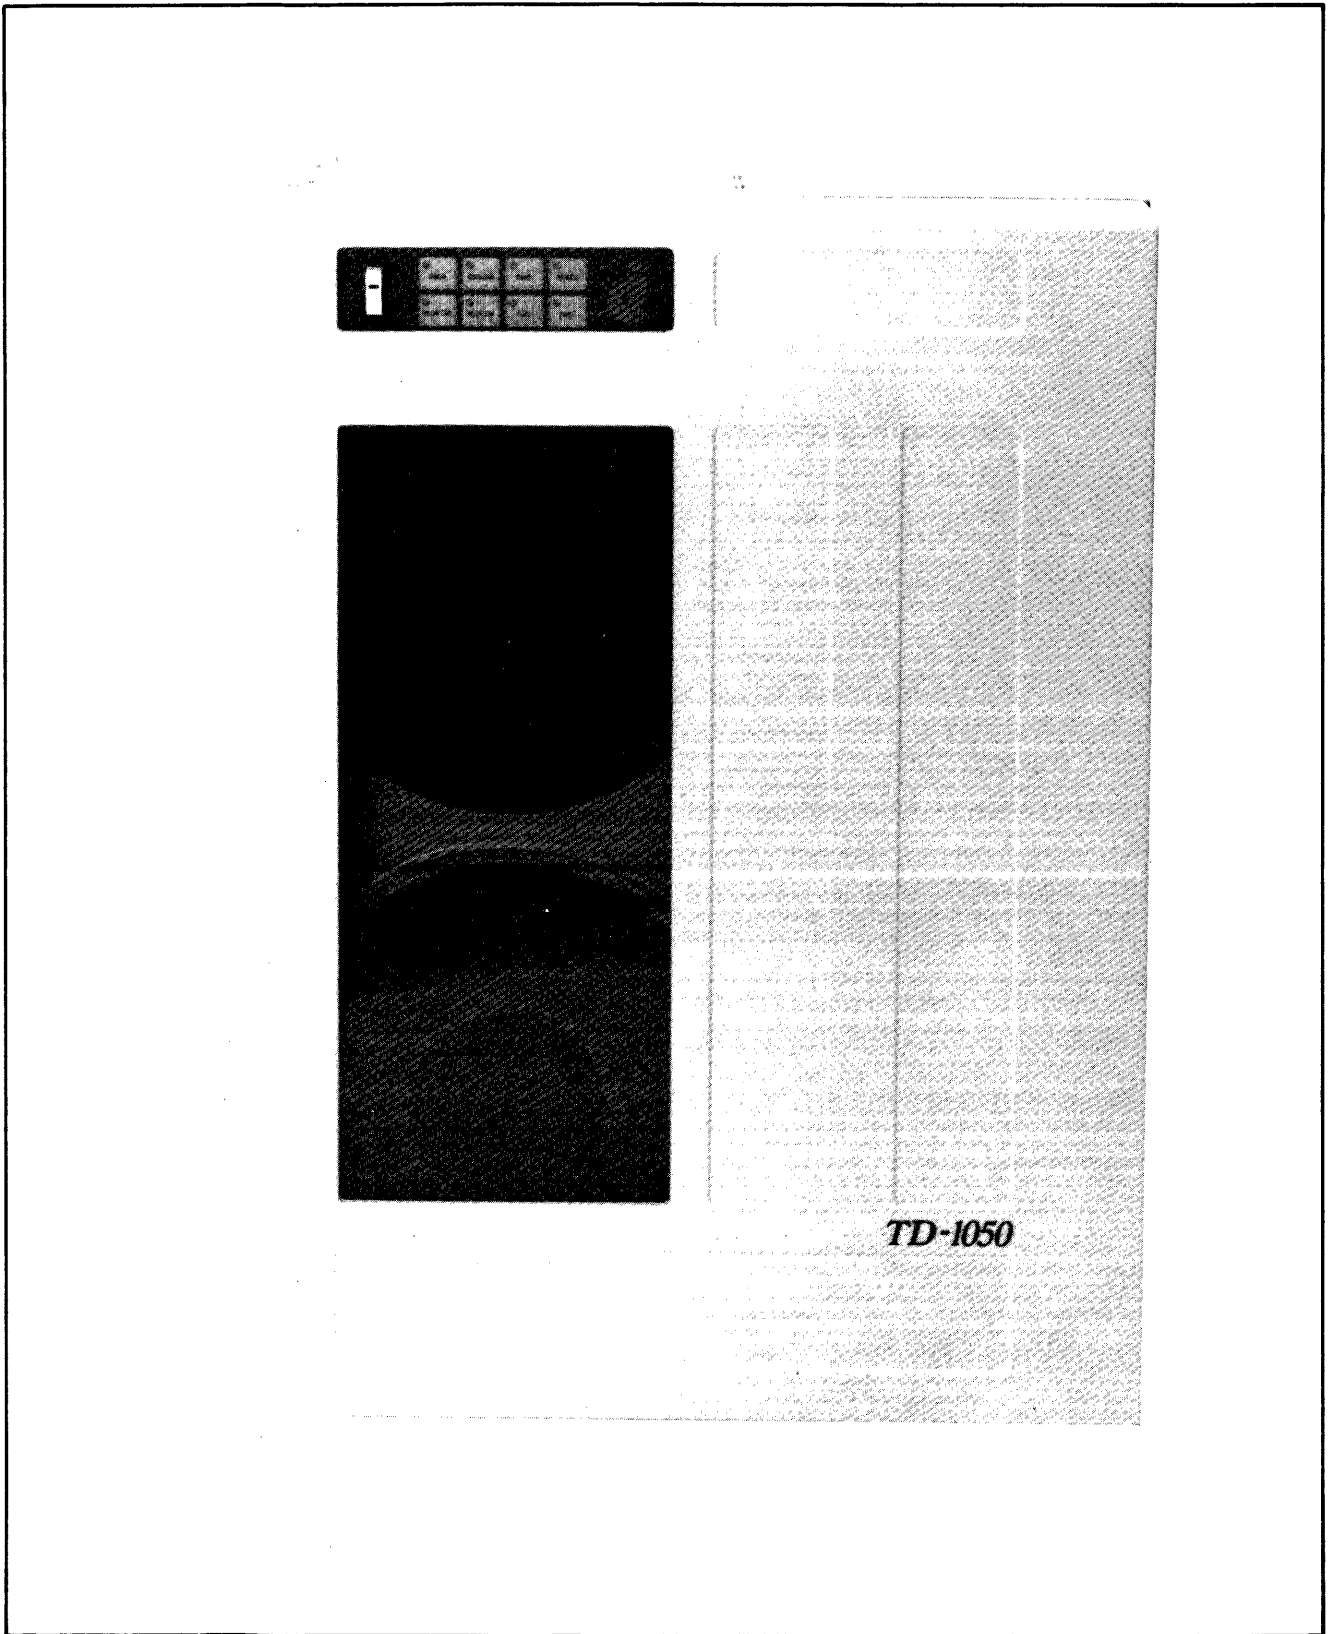

FIGURE 1-1. DIGITAL MAGNETIC TAPE TRANSPORT SERIES 1050
1.2 PHYSICAL DESCRIPTION (See Figure 1.1)
The Series 1050 Tape Transports are self-contained units designed to hinge mount in a standard 19-inch RETMA rack. Figure 1-1 shows the physical configuration of the tape transport. The design provides shallow box mounting with the standard hinge assemblies. Other mounting requirements can be accommodated. An attractive vacuum-formed plastic facade covers the entire top plate. The facade incorporates dust door with a see-through tinted panel and nine operational controls with indicators. These controls provide the necessary switching and starter indication functions for the system. For detailed information refer to Section III Operation.